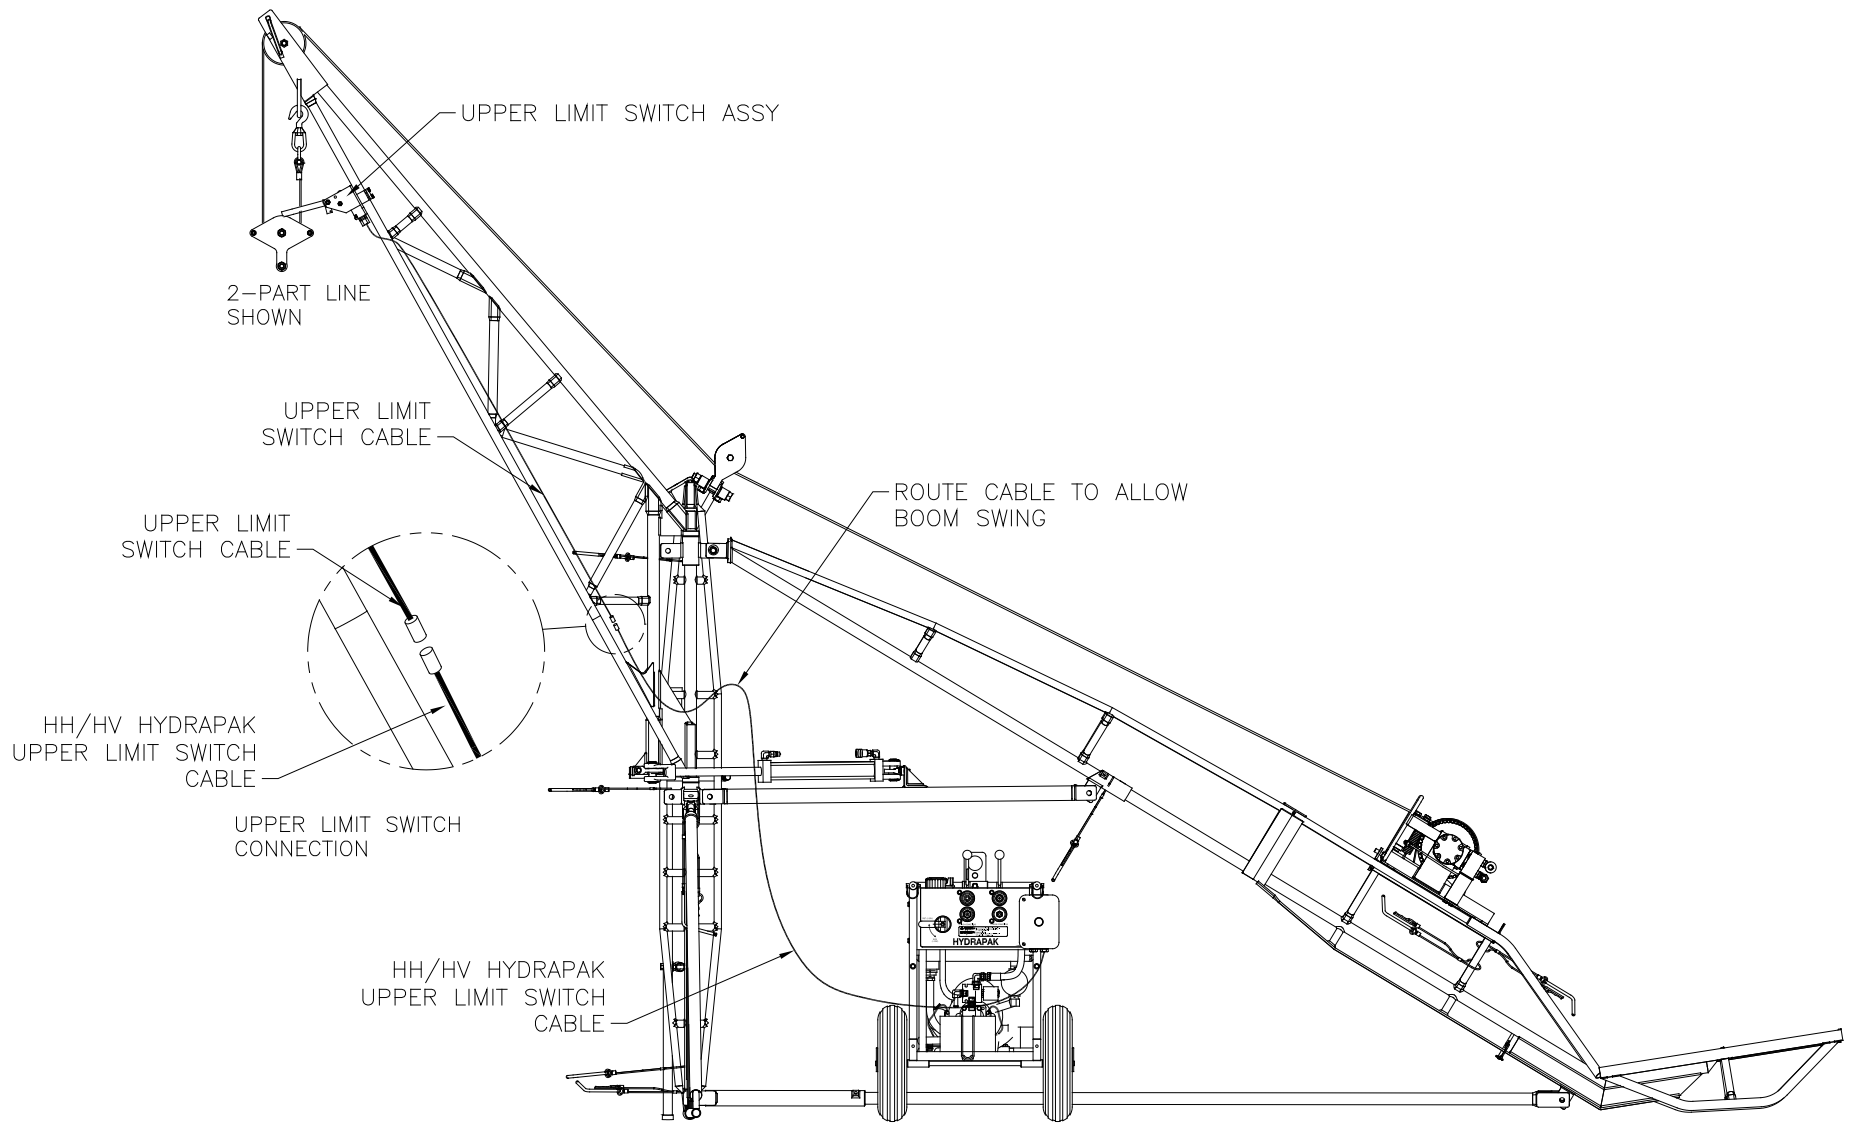

Figure 3-5.
5. Connect the HH/HV Hydrapak upper limit switch cable to the upper switch. See figure 3-5. Route HH/HV Hydrapak cable to allow boom swing.